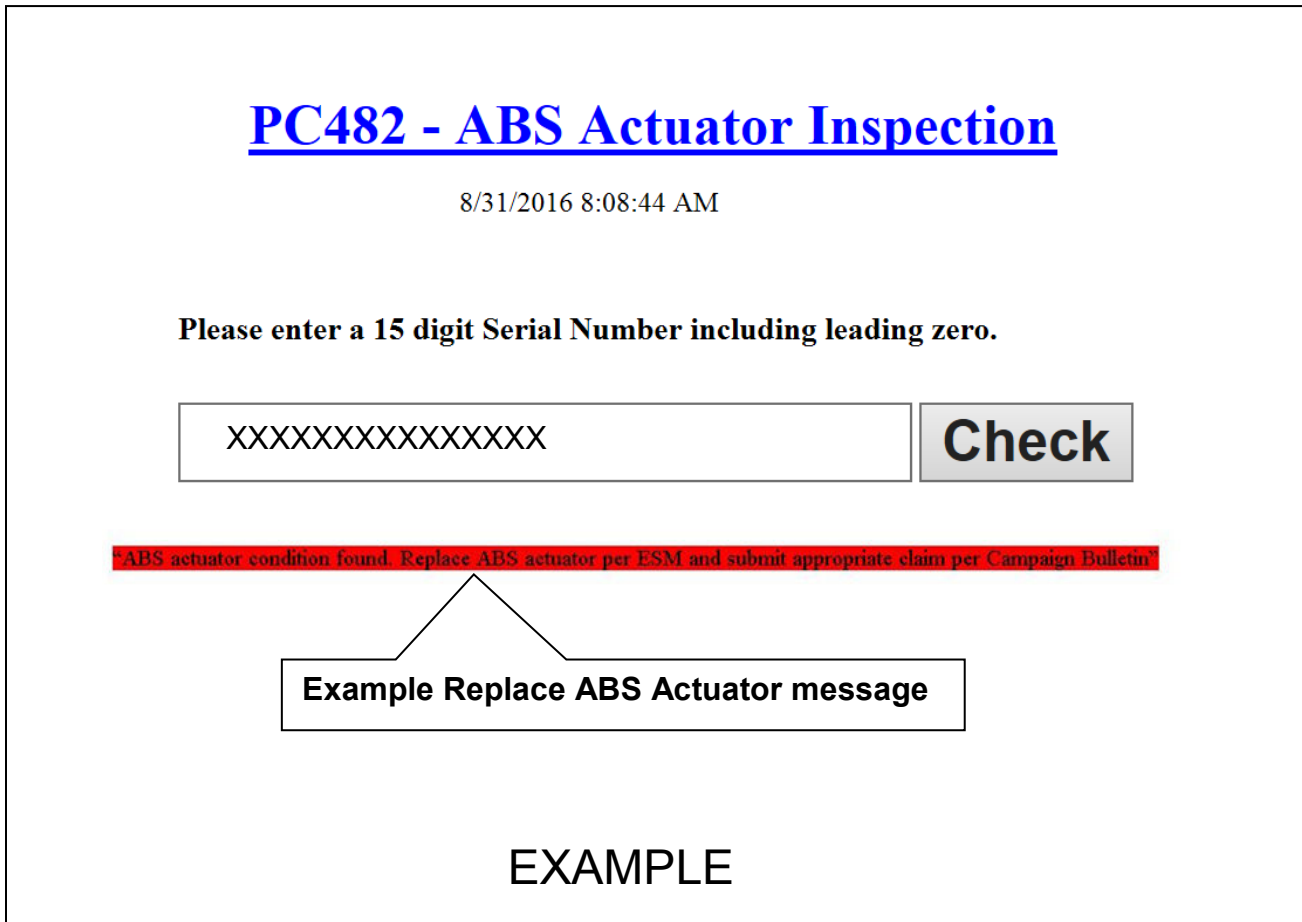

Figure 6
- If your ABS control unit (ABS Actuator) is NG, the **Replace ABS Actuator** message shown in Figure 6 will display.
- **The screen in Figure 6 showing the 15 digit serial number and the Replace ABS Actuator message, MUST be printed and attached to the repair order for warranty documentation.**